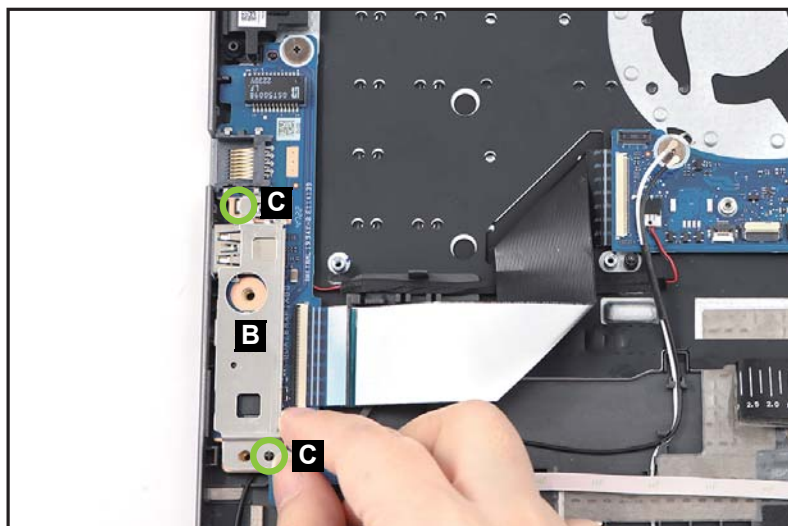

Figure 1-36. Mainboard Removal
2. Lift the left IO bracket (B) to release it from the guide pins (C) (Figure 1-36). Then remove the bracket.